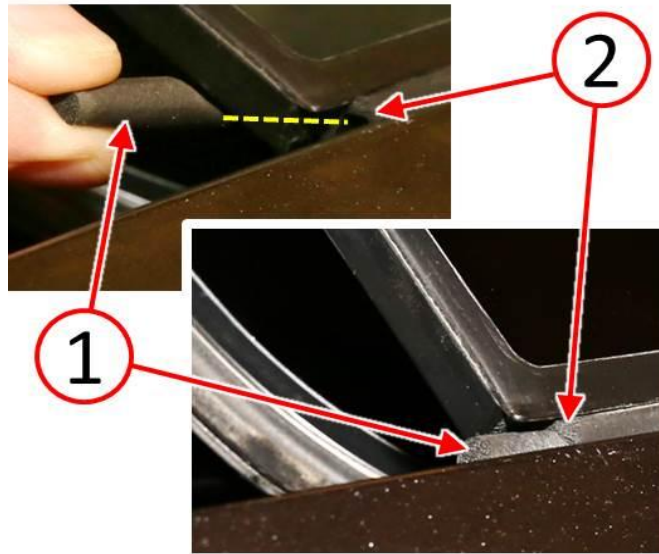

Fig. 6 Insert Foam Stuffer Into Bulb Seal - Leave Stuffer Over Flush
8. Insert the 45 degree angled end of the foam stuffer into the sunroof fixed pane bulb seal (2) until the foam stuffer (1) is approximately 5 mm over flush of the fixed pane front edge (Fig. 6).